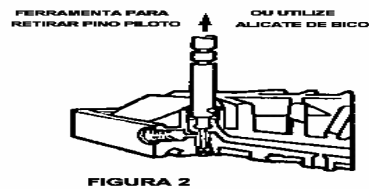

FIGURA 2
2. Remova as molas e as hastes dos pilotos 27375 (Figura 2)